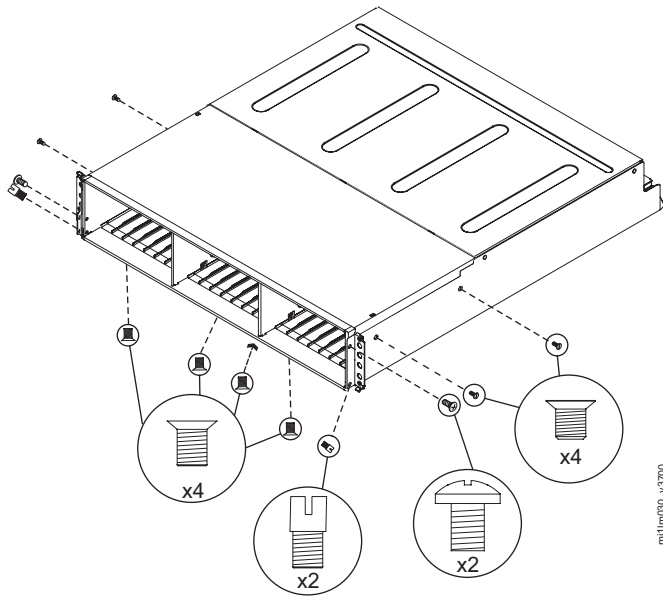

Figure 108. Removing the screws of an expansion enclosure assembly
12. Remove the four screws from the bottom of the enclosure (see Figure 108 on page 357). Remove the three screws that are near the front and the screw that is near the middle. Label these screws to indicate the location from which they are removed and place them aside.
14. Remove the three screws and one screw-pin on the right side that secure the midplane assembly to the enclosure (see Figure 108). Label the screws to indicate the location from which they are removed and place them aside.
15. Remove the three screws and one screw-pin on the left side that secure the midplane assembly to the enclosure (see Figure 108). Label the screws to indicate the location from which they are removed and place them aside. See Figure 4.